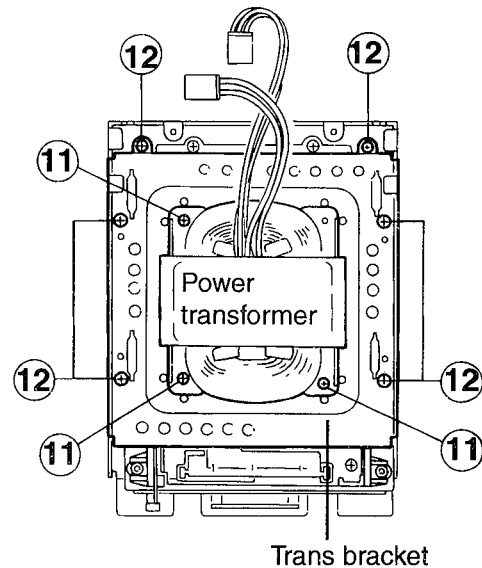

Fig. 13
■ Removing the Power Transformer (See Figs. 13)
■ Removing the MD Mechanism assembly (See Figs. 13, 14)
1. Remove the six screws ⑫ retaining the trans bracket.
(See Fig. 13)